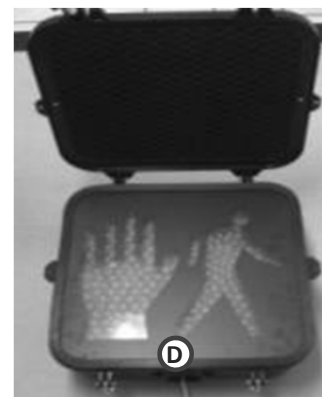

Figure 4
- Step 5** - Place the LED pedestrian signal module inside housing (Figure 4). Verify the Hand and Man symbols are properly orientated in the up position. Verify the gasket is properly secured.